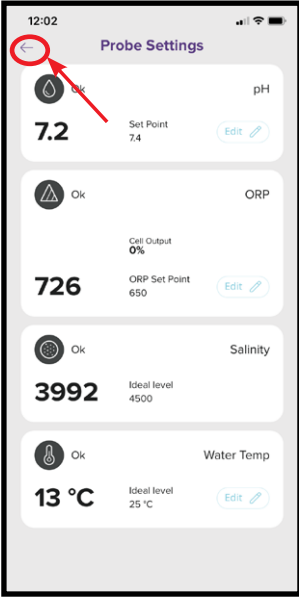

Figure 10.4
- Now the change is reflected in the Probe Settings screen, press the back button to return to the dashboard (refer Figure 10.4).